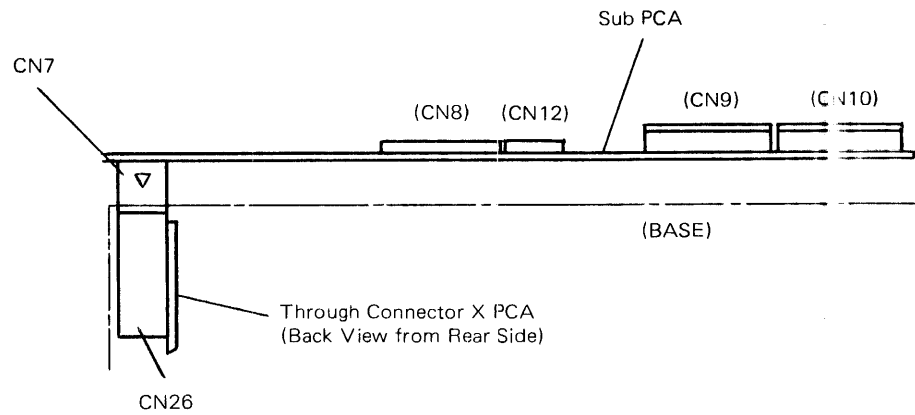

Figure 6.4 Through connector PCA connection
(1) Removal
- ① Loosen screws “B”.
- ② Raise the Main PCA by lifting up the upper side-frame.
- ③ Disconnect wiring (CN5, CN6, CN8, CN9, CN10 and CN12).
- ④ Remove six screws and lift out the Sub PCA. Be careful not to damage CN7/CN26 on the Through Connector PCA. The Through Connector PCA is connected to the Sub PCA at the back of the board. Refer to Figure 6.4. CN26 will be disconnected by lifting the Sub PCA.